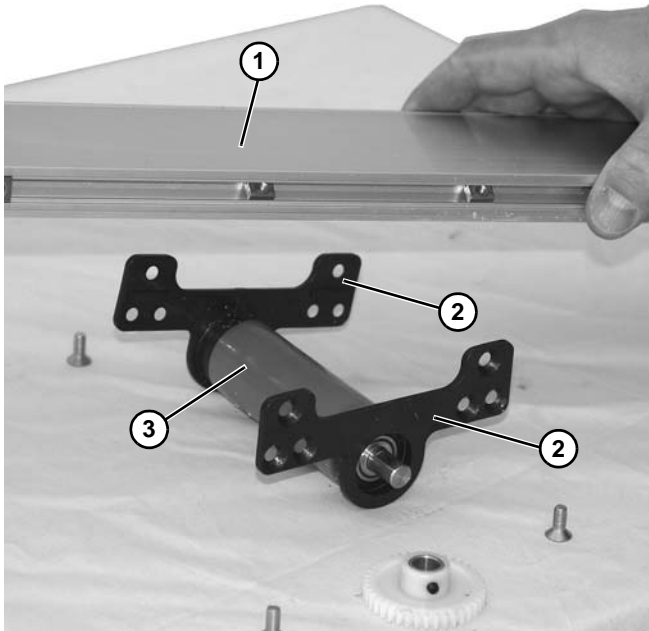

Figure 38
4. Raise conveyor (Figure 38, item 1) from pinch plate assembly.
5. Remove pinch plates (Figure 38, item 2) from roller (Figure 38, item 3).